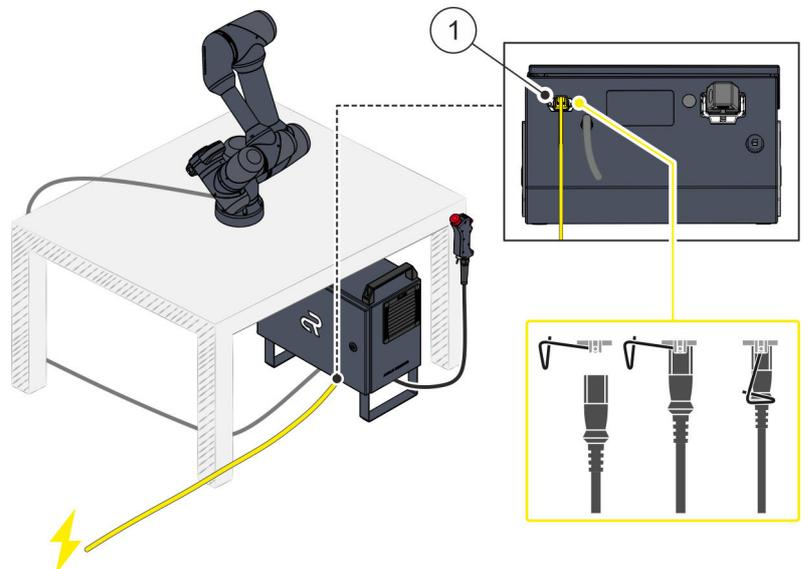

Fig. 55 Establishing the electrical connection
25. Plug the power cable into the associated connection socket on the underside of the robot controller **Fig. 55** / ①.
When doing so, ensure that the cable plug is locked to the connection socket with the help of the bracket **Fig. 55**.